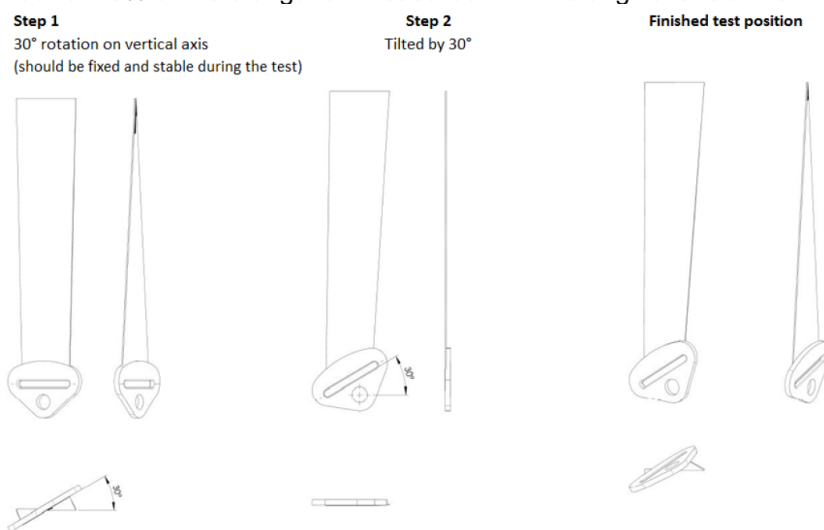

Figure 7. Alternative attachment rotated 30° relative to the direction of load application AND 30° around the axis of load application as defined in Article 5.3
2. a supplementary test following the requirements defined in Article 6.7.2 and/or 6.9.1 must be carried out with the following modification: the alternative attachment must be rotated 30° relative to the direction of load application AND 30° around the axis of load application as shown in Figure 7;